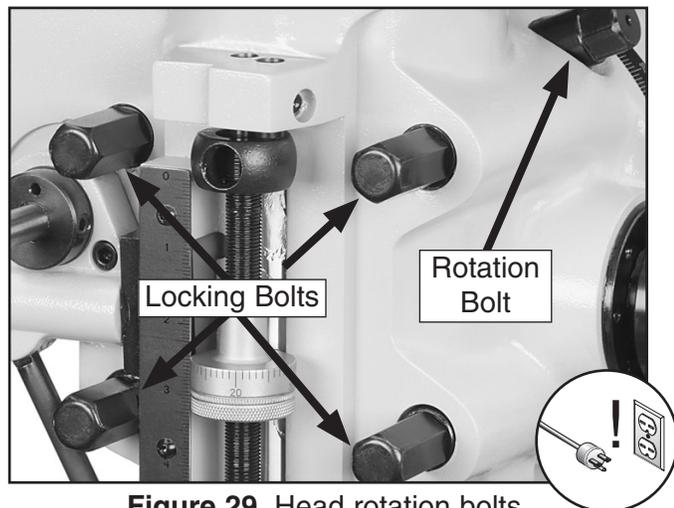

Figure 29. Head rotation bolts.
2. Loosen the four rotation locking bolts shown in **Figure 29**.